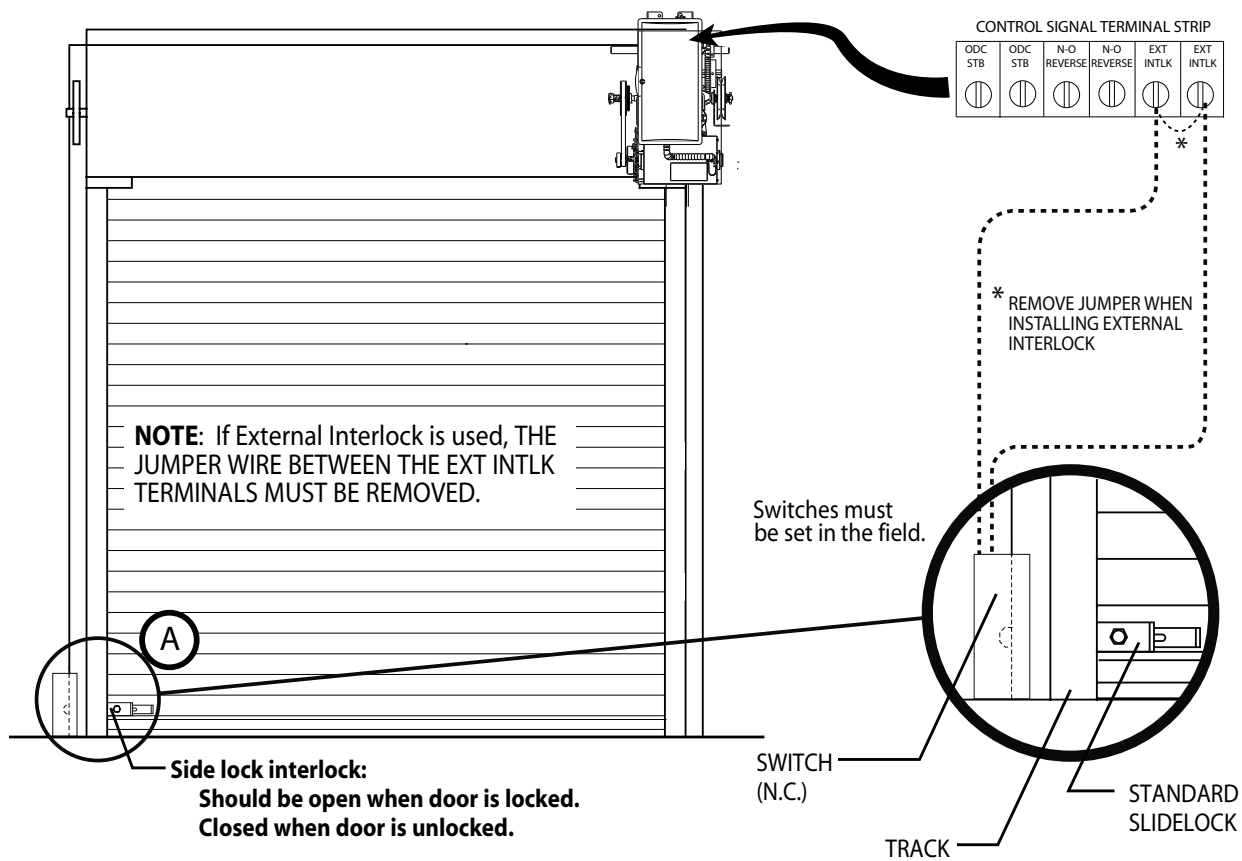

Fig. 5
- If the door is equipped with a functioning door lock, an interlock switch (A) must be installed to prevent electric operation when the lock is engaged.
- If the door is equipped with a pedestrian pass-through door, an interlock switch (B) must be installed at the pass-through door in order to prevent electrical operation when the pass-through door is open.
- 2) The switches must be set in the field. Fig. 5